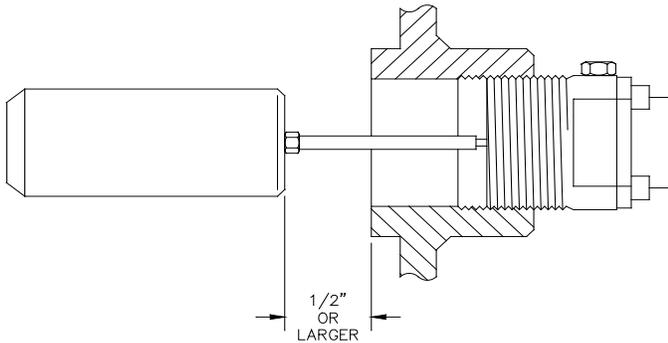
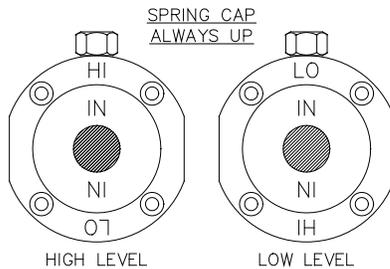

FIG. 4
FIG. 5
Before installing a level switch into an external cage or mating flange, verify that level switch is set up or the operation required (i.e., high or low liquid level direction). See Section 4.0 CHANGING MODE OF OPERATION and Figure 5. NOTE: When direct mounting a level switch to a tank or vessel, verify that the end displacer assembly will be at least 1/2" (13mm) longer than the 2" connection on which it is being installed. (See Figure 4).
- 3.2.4 Gently screw the "FLEX LEVEL" switch into the mounting thread until hand tight. Then tighten with the wrench. When tight the spring cap must be up as shown in Fig. 5.
NOTE: THE SPRING CAP MUST ALWAYS BE IN THE VERTICAL POSITION AS SHOWN IN FIG. 5 FOR THE “FLEX LEVEL” SWITCH TO OPERATE PROPERLY.
The level switch can be changed from high level detection to low level detection very easily. If the level switch is installed into a pressurized cage or vessel, the pressure does not have to be removed, but the caution in Section 4.2 should be followed closely. Fig. 5 shows the proper orientation of the level switch function markings for high and low level operation.
- 4.1.3 With the 3/16” Allen Wrench, remove the four hex socket head cap screws (9). Rotate the valve body 180 degrees to change the mode of operation from high to low or from low to high as desired. See Fig. 5 for proper valve body orientation.
acting on the end of the cone (17), that is protruding through the body, will move the valve body outward as the two screws are turned. When the valve body has stopped moving, remove the four screws completely. Rotate the valve body 180 degrees to change the mode of operation from high to low or from low to high as desired. See Fig. 5 for proper valve body orientation.
- 6.13 Orientate the valve body in the correct position for the desired high or low operation. See Fig. 5. Install and tighten the four hex socket head cap screws (9).